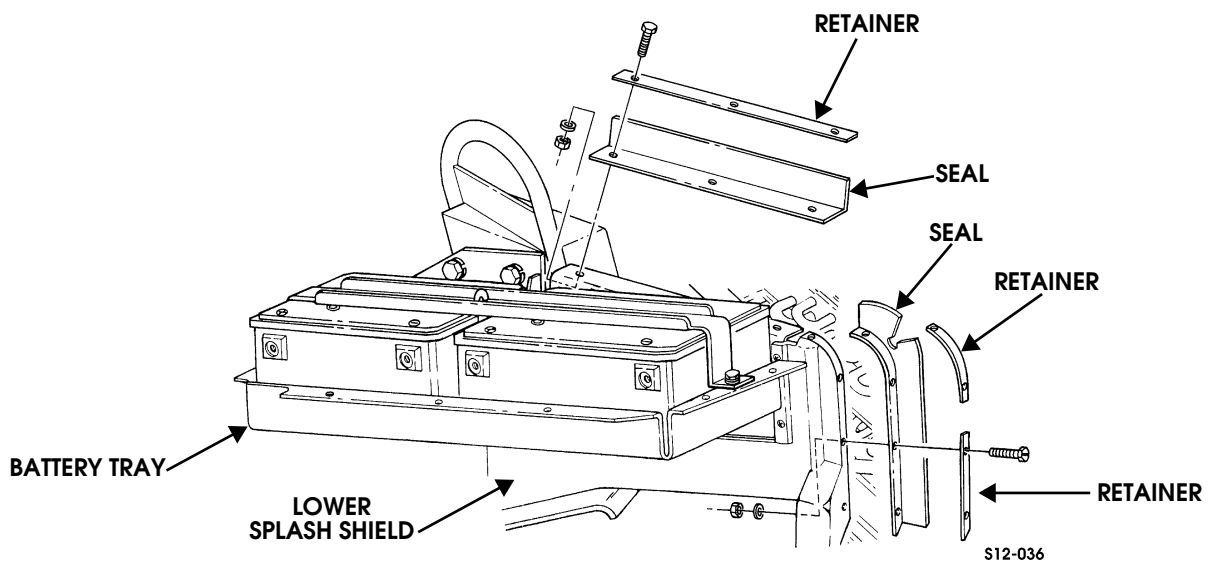

Figure 12-33: Seal and Retainer Attachment
2. Remove retainer bolts, and remove seal from battery tray and lower shield (Figure 12-33).
4. Install seals and retainers (Figure 12-33).